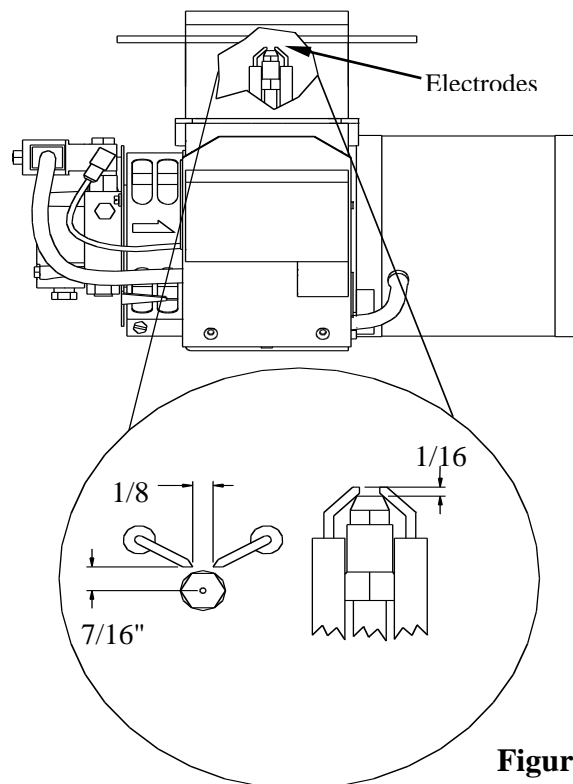

Figure 22
- 3) Reset the spacing as shown below in Figure 22.